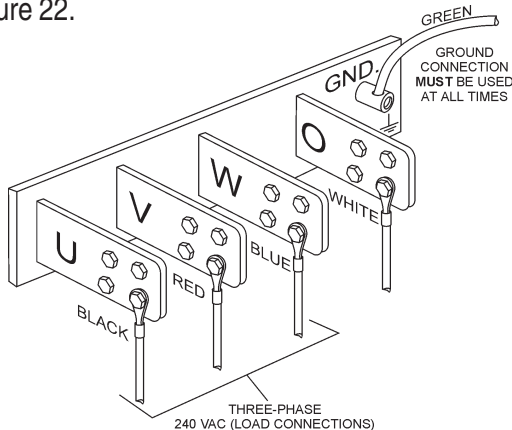

Figure 22. UVWO Terminal Lugs 3Ø-240V Connections
2. Connect the load wires to the UVWO terminals as shown in Figure 22.